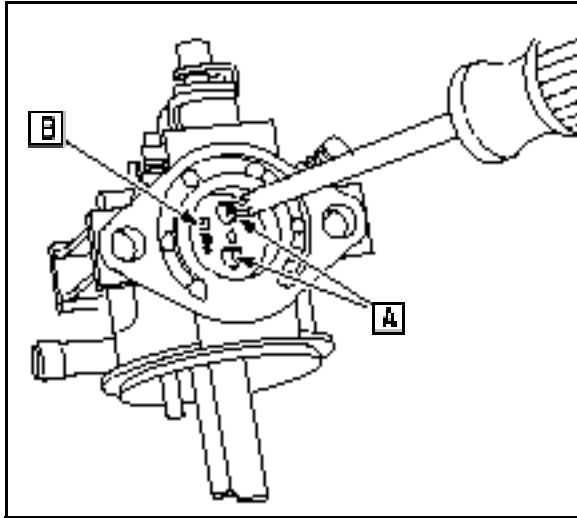

Fig. 57
13. Remove the throttle plate screws (A).
14. Remove the throttle plate ([B] Fig. 57).